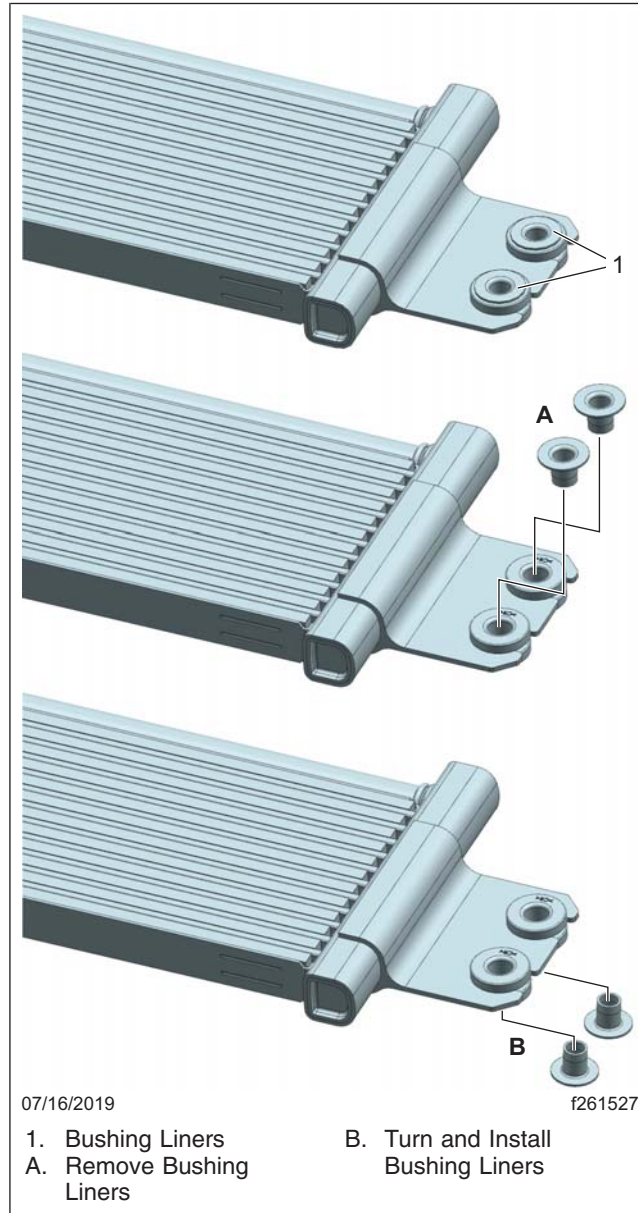

Fig. 6, Turn & Install Bushing Liners
14. Turn the bushing liners so the flange is facing the radiator frame and install the bushings. See Fig.6.